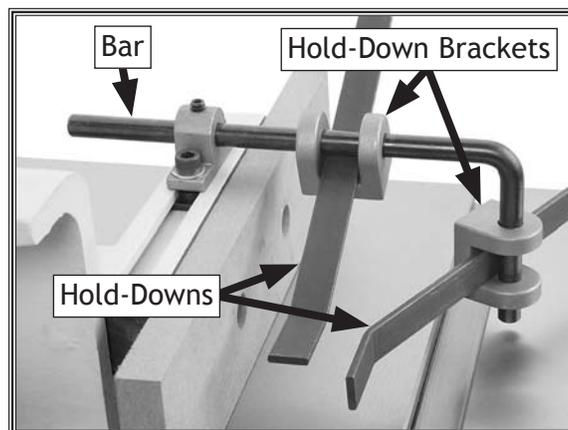

Figure 27. Hold-down assembly installed.
5. Slide two hold-down brackets onto the hold-down bar, as shown in Figure 27, insert the hold-downs between the bracket and the bar, then use two 1/4"-20 x 3/8" set screws to secure the hold-downs and the brackets.
6. Insert the hold-down bar into the hold-down bar bracket, as shown in Figure 27, then thread one 1/4"-20 x 3/8" set screw into the top of the bracket to secure the assembly in place.